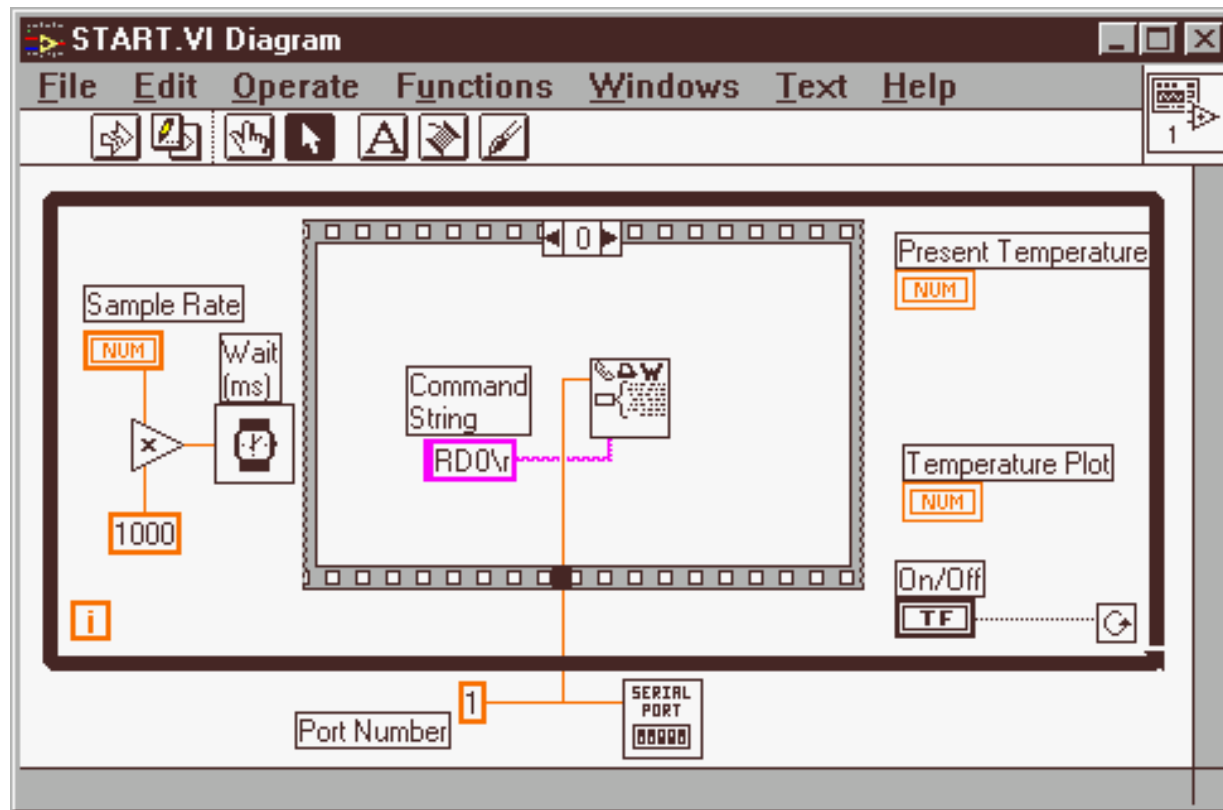

Figure 7 : Serial Write Function
- Place the serial write function inside frame 0 by selecting it from FUNCTION/SERIAL/SERIALWRITE. Place the serial initialize function outside the while loop as shown in Figure 7 using FUNCTION/SERIAL/SERIALINITIALIZE.
- This is done by selecting a string constant using FUNCTIONS/STUCTSANDCONSTANTS/STRINGCONSTANT. Enter RD0 followed by a carriage return as the string constant and wire as shown in Figure 7.
- When this is done, "RD0n" will be the displayed string data. Use the text icon to change the n to r (carriage return). If successful, the string will as be shown as in Figure 7 with the "  CODES DISPLAY" function enabled.